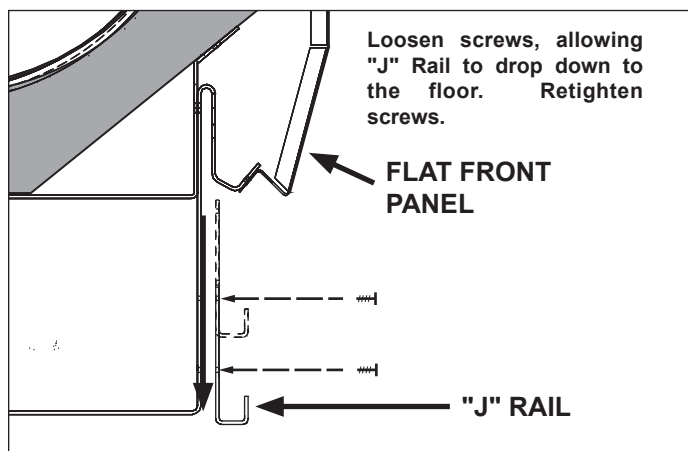

Fig. 6 "J" rail installation
9. The "J" rail is shipped attached to the case as shown. Loosen screws holding "J" rail to allow it to slide down and fit flush with the floor (Fig. 6). Re-tighten screws.